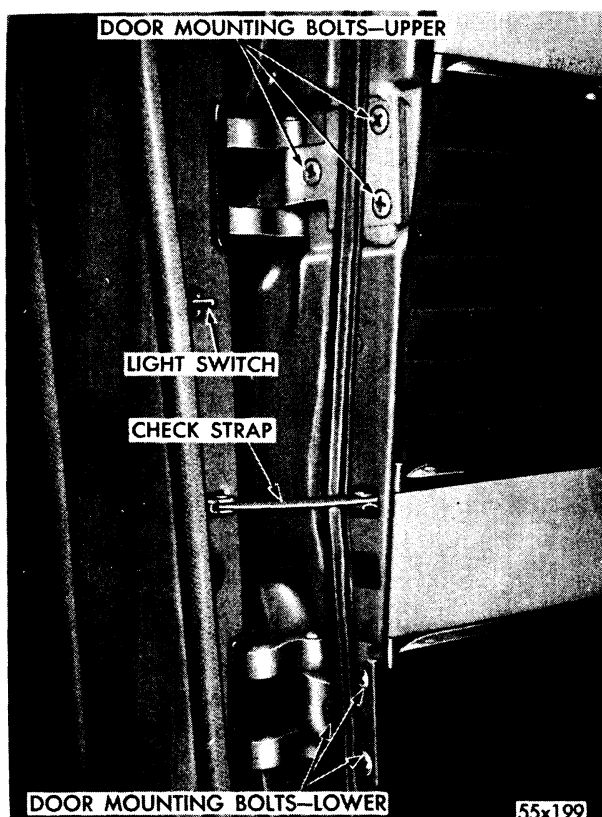

Fig. 17—Rear Door Hinges
10. REAR DOOR HINGE ADJUSTMENTS (FIG. 17)